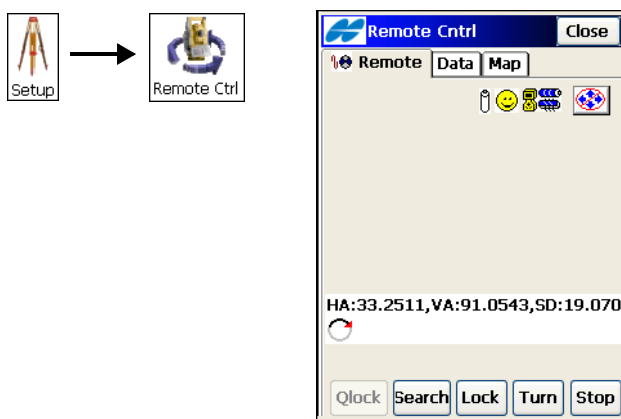

Figure 8-45. Remote Control
1. Tap **Setup ► Remote Control** (Figure 8-45).
2. On the *Remote Cntrl* screen, you can make the instrument search for the target (with the **Search** button), lock on the target (with the **Lock** button), stop rotating (with the **Stop** button) and rotate to a pre-defined angle (with the **Turn** button) (Figure 8-45).